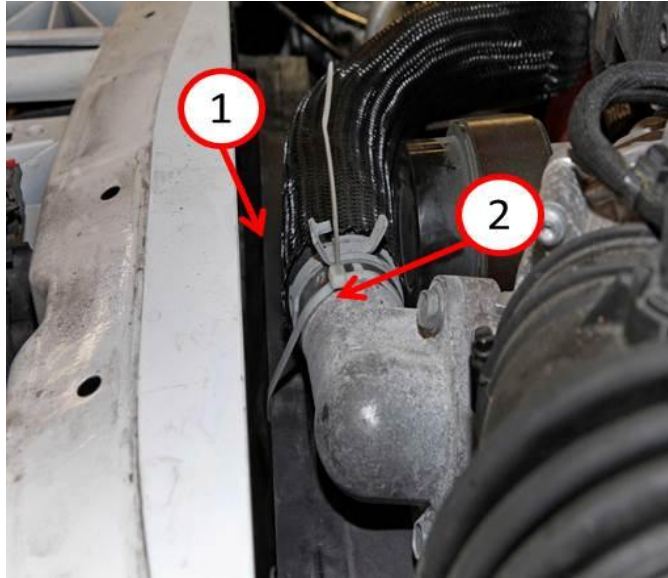

Fig. 12 Fan Shroud Tied Back
23. Tie strap (2) the upper fan shroud (1) out of the way as shown (Fig. 12).
36. Remove the tie strap securing the upper fan shroud (Fig. 12).